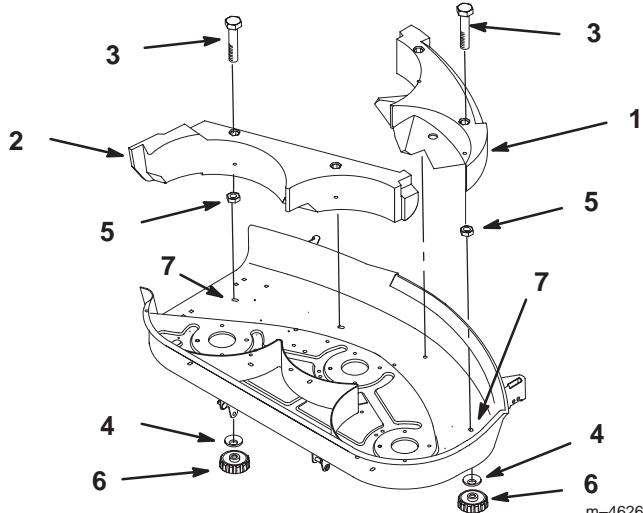

Figure 2
2. Remove the knobs and washers from the left and right side baffles (Fig. 2). Lift the baffles from the deck. Retain all parts for future installation.
3. Install 2 carriage bolts (3/8 x 3/4 in.) (from the underside of the mower), 2 washers (1/2 in.), and 2 locknuts (3/8 in.) in the 2 open slotted holes of the mower shown in Figure 2.